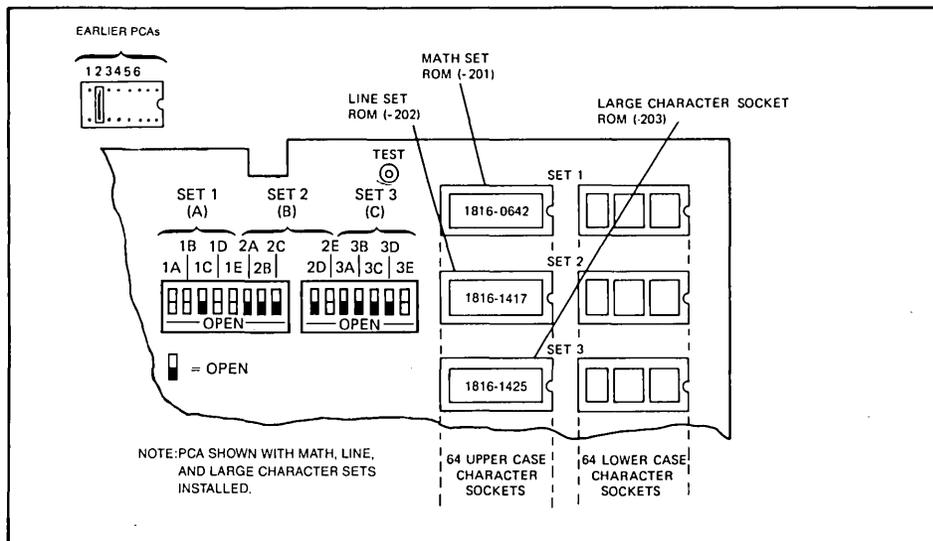

Figure 2-20. Display Enhancement PCA ROM Socket Locations
**PROCEDURE** ..... 1. If any option was ordered, check the Display Enhancement PCA to see that the ROM(s) are installed in the correct locations (figure 2-20).